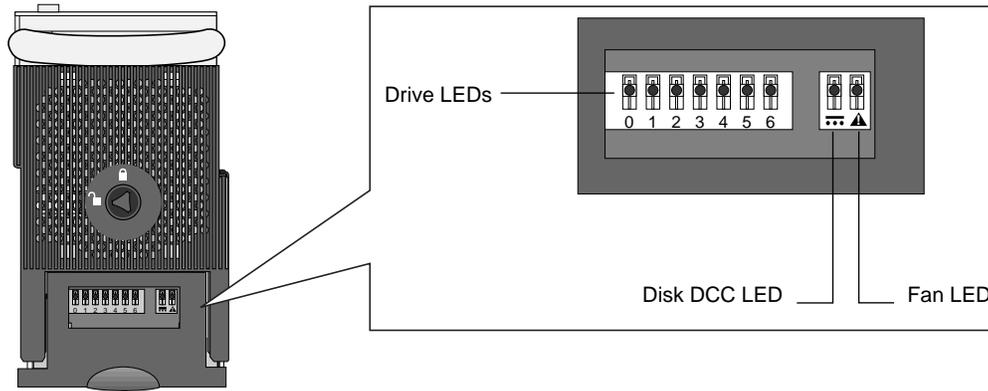

Figure 20. HDDA LEDs (drive drawer front panel)
1. View the front panel LEDs (Figure 20) on each HDDA drive drawer. If all LEDs are off on a drive drawer, it may indicate a blown fuse.